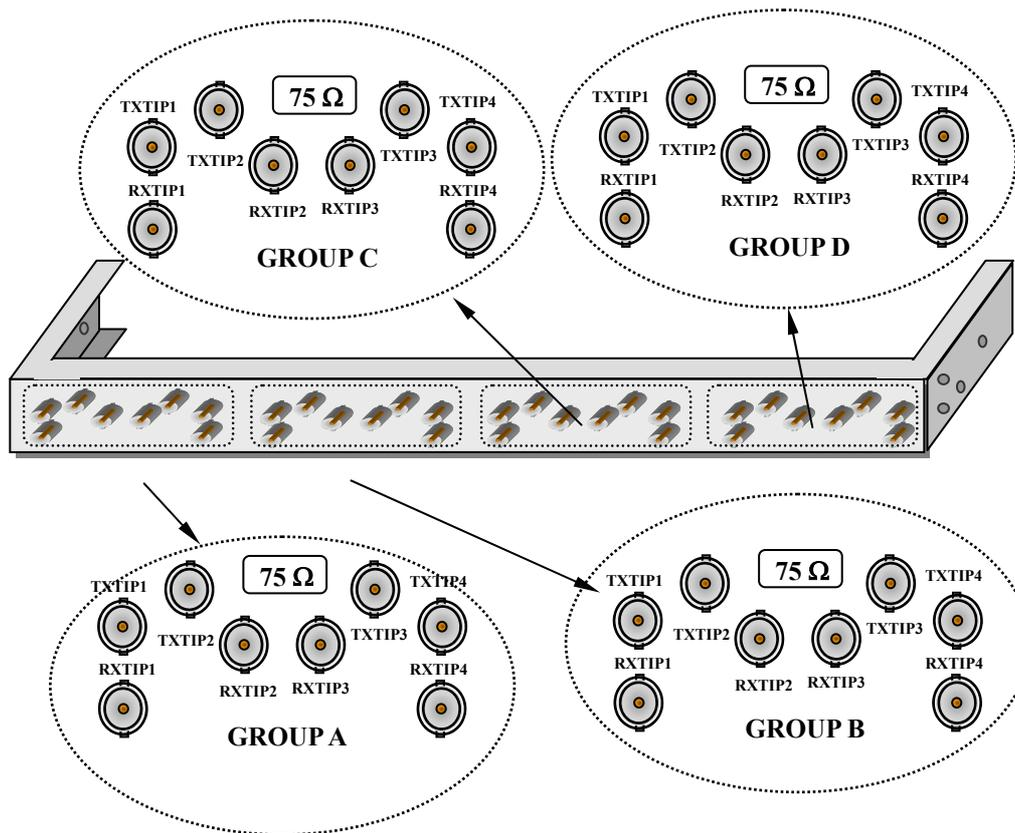

Fig.9 BNC-connector kit
- 3.5 For the unbalance interface, each E1 tributary has two BNC connectors designated TXTIP (transmit output) and RXTIP (receive input), as shown in Fig.9 and Fig.10.